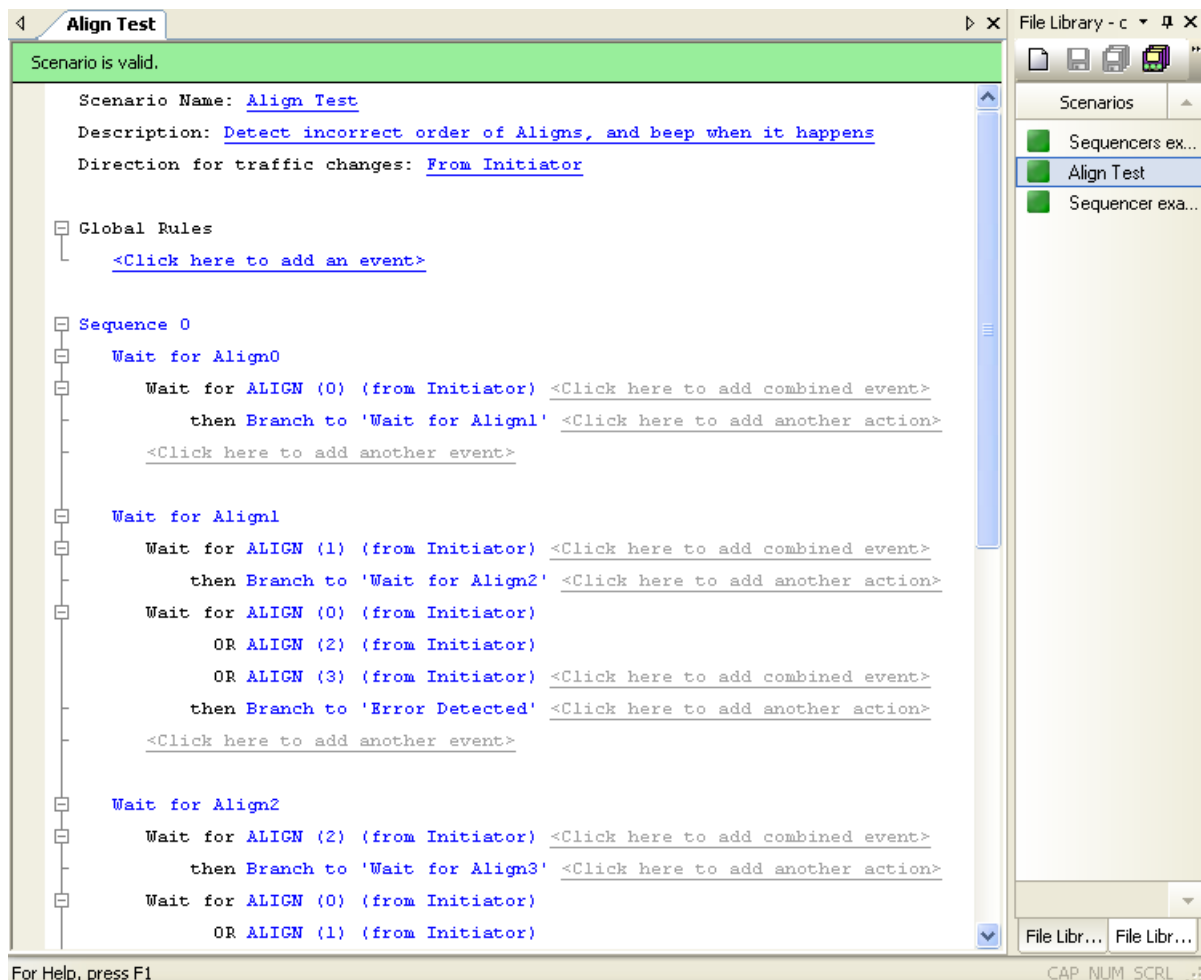

Figure 4.39: Example 8: Top Half of Scenario
3. In the File menu, select **Save Scenario** to save the scenario (see Figure 4.39 on page 270).